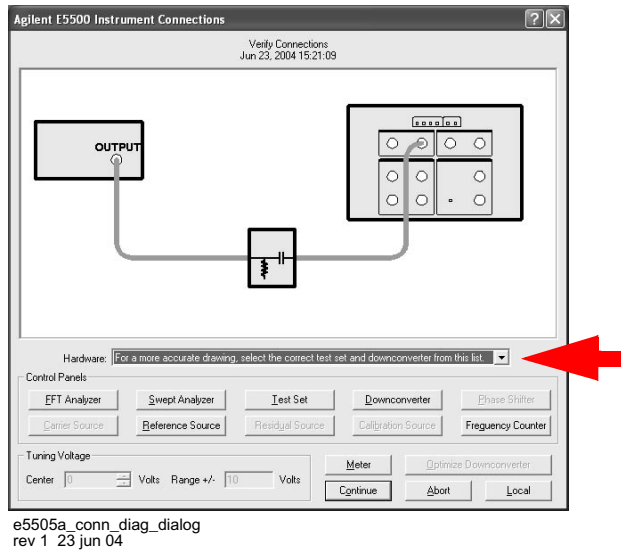

Figure 252 Connect diagram dialog box
- 3 When the **Connect Diagram** dialog box appears, click on the hardware drop-down arrow and select “N5500A option 001 test set only” configuration from the list. See Figure 252 on page 316.